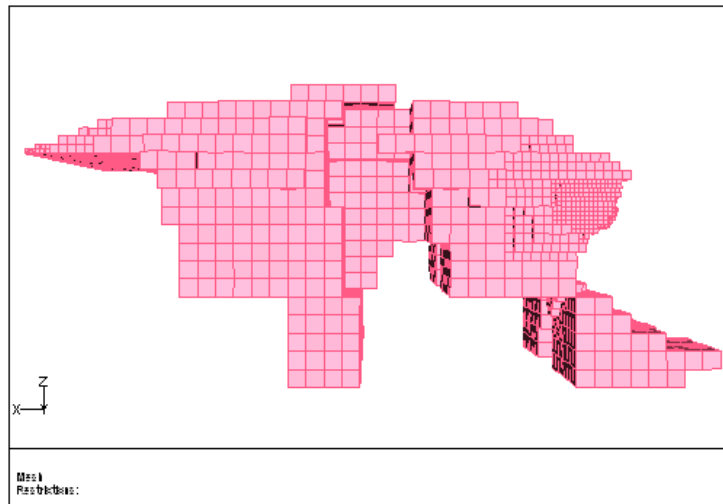

Figure 5.6: Parent Face for the Hexcore Mesh
- iii. Click Display (Figure 5.6).